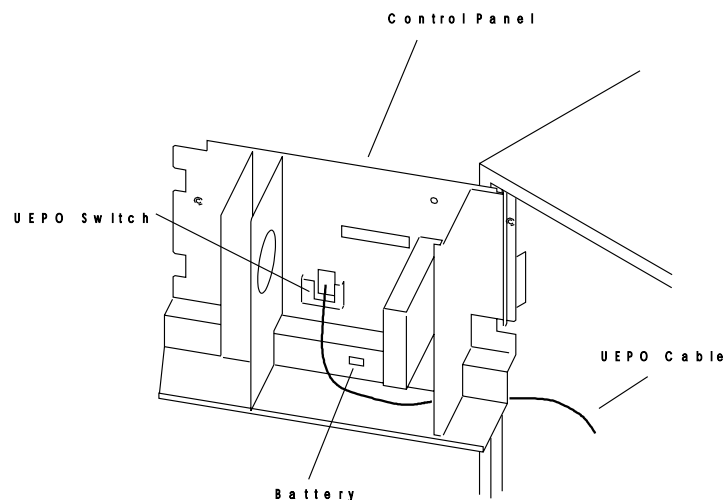

Figure 4-9. 3745-X1A Control Panel (Rear View)
- Step 5. \_\_\_\_ Open the 3745 control panel. Locate the unit emergency power OFF (UEPO) switch at the rear of the control panel (see Figure 4-9).